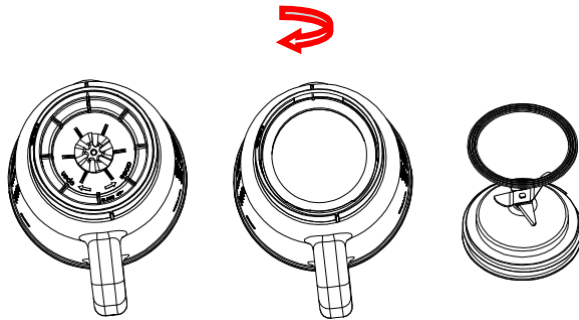

Fig.8
4. Dismantle all detachable parts. Lift the jar assembly off the motor unit, To detach the blade assembly by turning it clockwise from the jar base bottom , and remove the seal ring 2 and blade assembly (see fig.8). In addition, detach the jar cover seal ring 1 from the jar cover